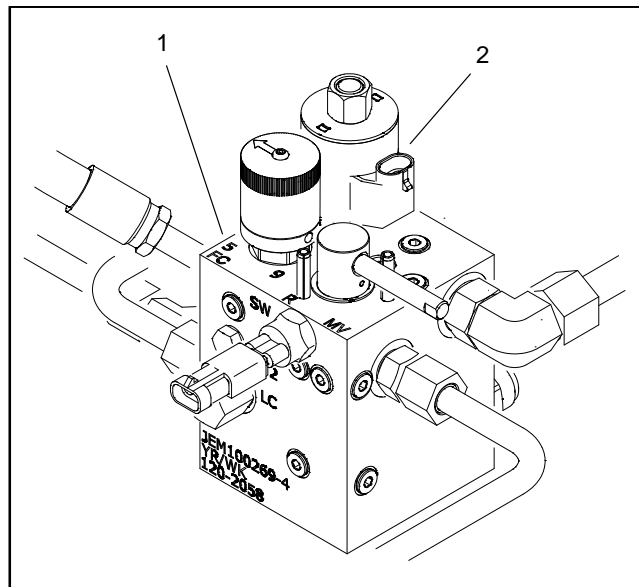

Figure 52
B. Disconnect wire harness connector from the hydraulic solenoid valve coil that is to be tested (Figs. 52 or 53).
C. Solenoid coil resistance should be measured with solenoid at approximately 68F (20C). Resistance may be slightly different than listed at different temperatures. Typically, a failed solenoid coil will either be shorted (very low or no resistance) or open (infinite resistance). Use a multimeter (ohms setting) and measure resistance between the two (2) connector terminals on the solenoid valve coil. The resistance for the solenoid coils is identified below: